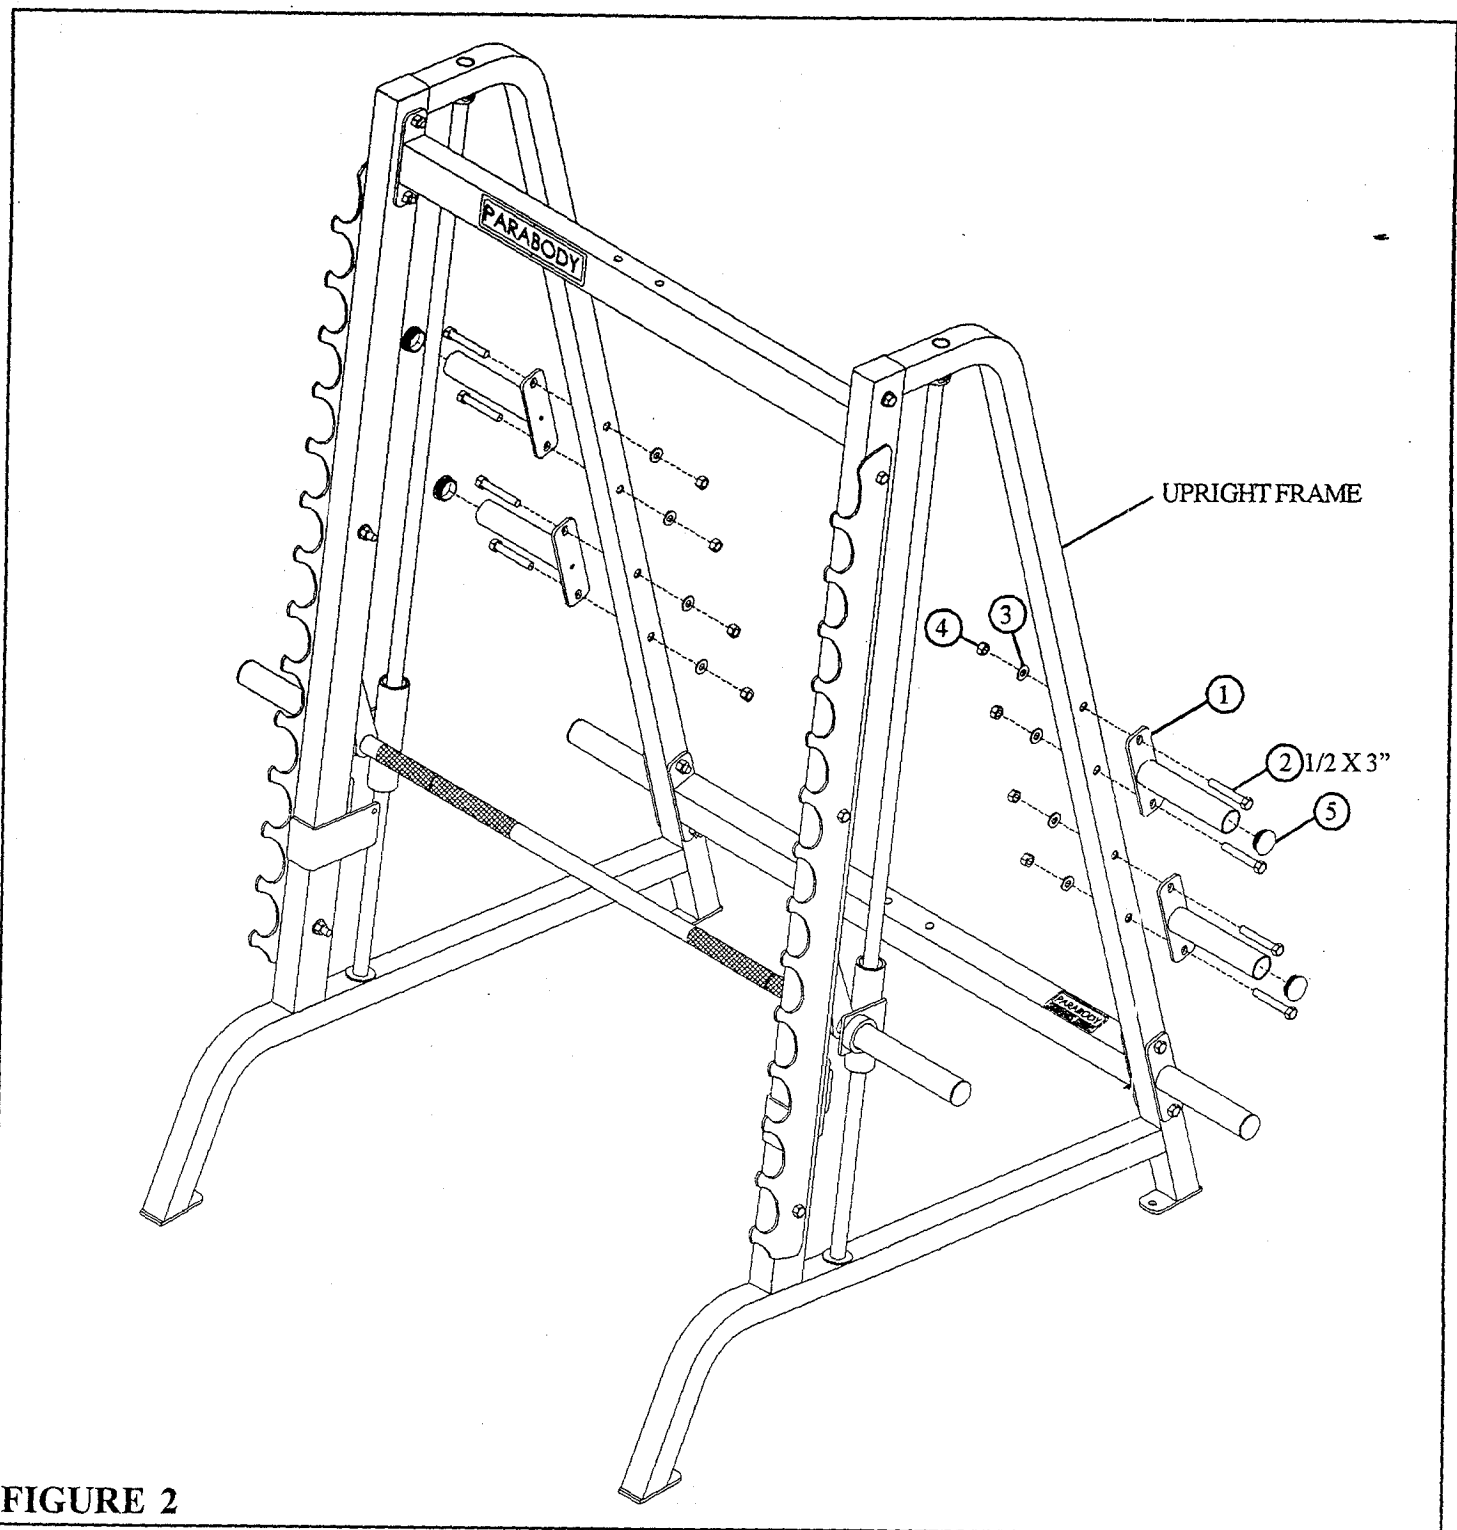

**FIGURE 1**
- Remove and discard the eight 9/16" CAP PLUGS from the UPRIGHT FRAMES as shown in FIGURE 1.